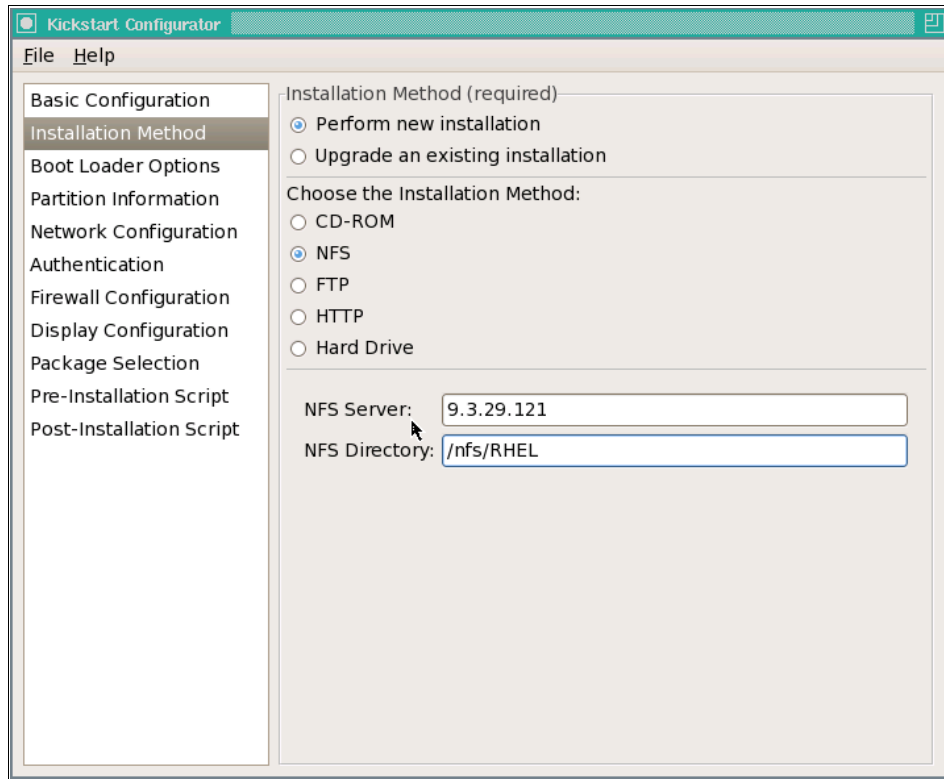

Figure 0-2 Installation Method panel (©2008 Red Hat, Inc.)
3. In the Installation Method panel (shown in Figure 0-2), all the basic parameters for a network installation using NFS are shown.